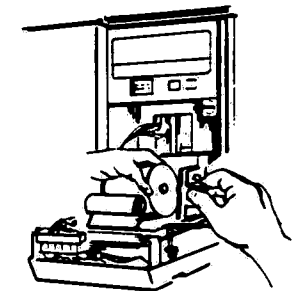

Figure 7-28A. REMOVING STORED RECORD (Units After 6/85).
6. To remove take-up spool, release tension on spring-loaded retaining clip and lift spool from unit (Fig. 7-28A).